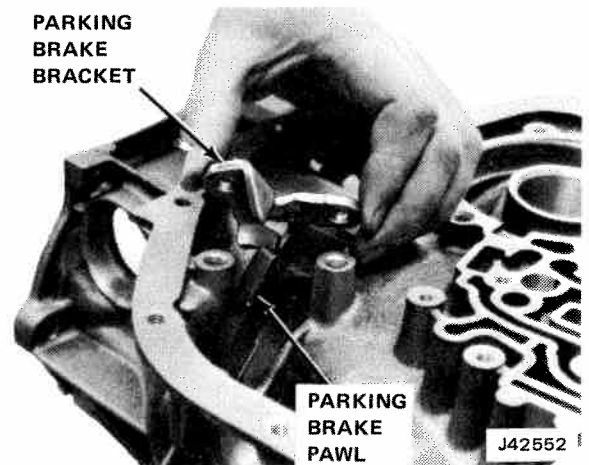

Fig. 7-122 Installing Parking Bracket
(4) Install parking pawl return spring, square end hooked on pawl, and other end of case.
(5) Install parking brake bracket guides over pawl, using two attaching bolts; tighten bolts to 15 to 20 foot-pounds (fig. 7-122).
(6) Install rear band assembly in transmission case, so that two lugs index with two anchor pins. Check band to make sure band is seated on lugs.